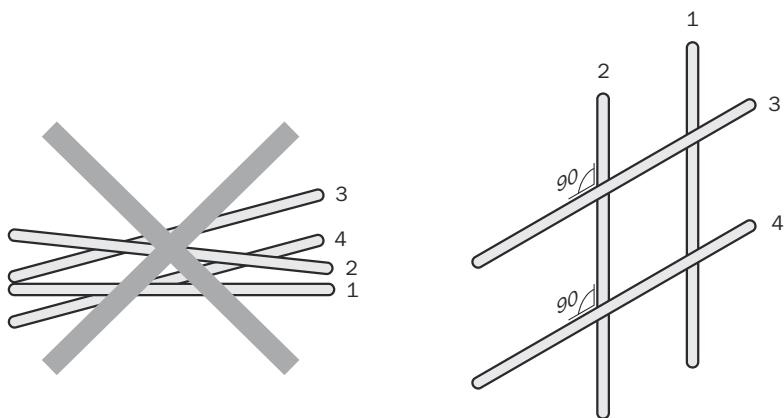

Figure 2: Cross cables at right angles
- ▶ Cables in groups 1, 2, and 3, 4 must be crossed at right angles see figure 2, page 28